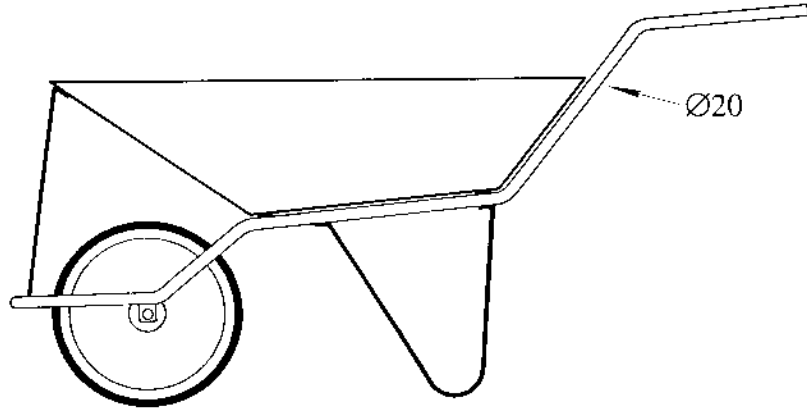

FIG. 2
Figure 2 shows a sketch of a wheelbarrow.
- (a) Describe a process that could be used to manufacture the lengths of Ø20 steel tubing shown in Figure 2.